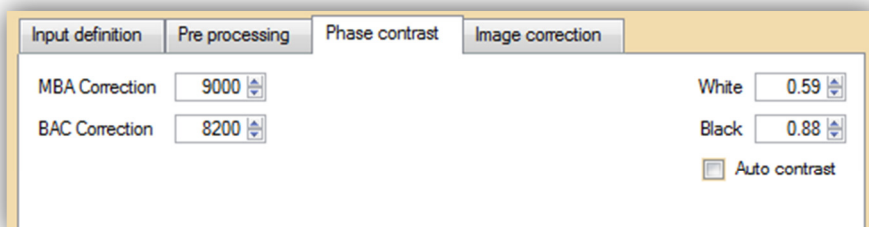

Figure 3.24: Phase contrast filtering parameters
- First step, apply Bronnikov filter on image to split pure absorption signal from phase signal. Choose a value that leads to a low-frequency representation of the original image (See figure 3.24, 3.25)
- Second step, fix the BAC correction such as you are close to contrast inversion and with a value lower than MBA correction parameter. Compared to BAC image, this one does not show any phase effect and high frequency information is included (See figure 3.24, 3.25)